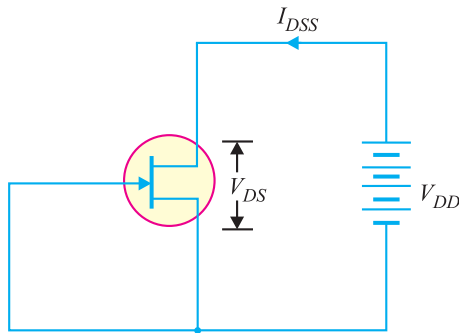
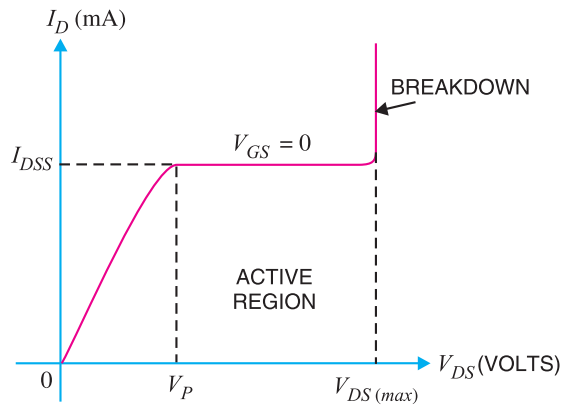

Fig. 19.9
Fig. 19.10
Fig 19.9 shows the *JFET* circuit with $V_{GS} = 0$ *i.e.*, source shorted-circuited to gate. This is normally called shorted-gate condition. Fig. 19.10 shows the graph between I_D and V_{DS} for the shorted gate condition. The drain current rises rapidly at first and then levels off at pinch off voltage V_p . The drain current has now reached the maximum value I_{DSS} . When V_{DS} is increased beyond V_p , the depletion layers expand at the top of the channel. The channel now acts as a current limiter and **holds drain current constant at I_{DSS} .
- (ii) There is a maximum drain voltage [$V_{DS(max)}$] that can be applied to a *JFET*. If the drain voltage exceeds $V_{DS(max)}$, *JFET* would breakdown as shown in Fig. 19.10.